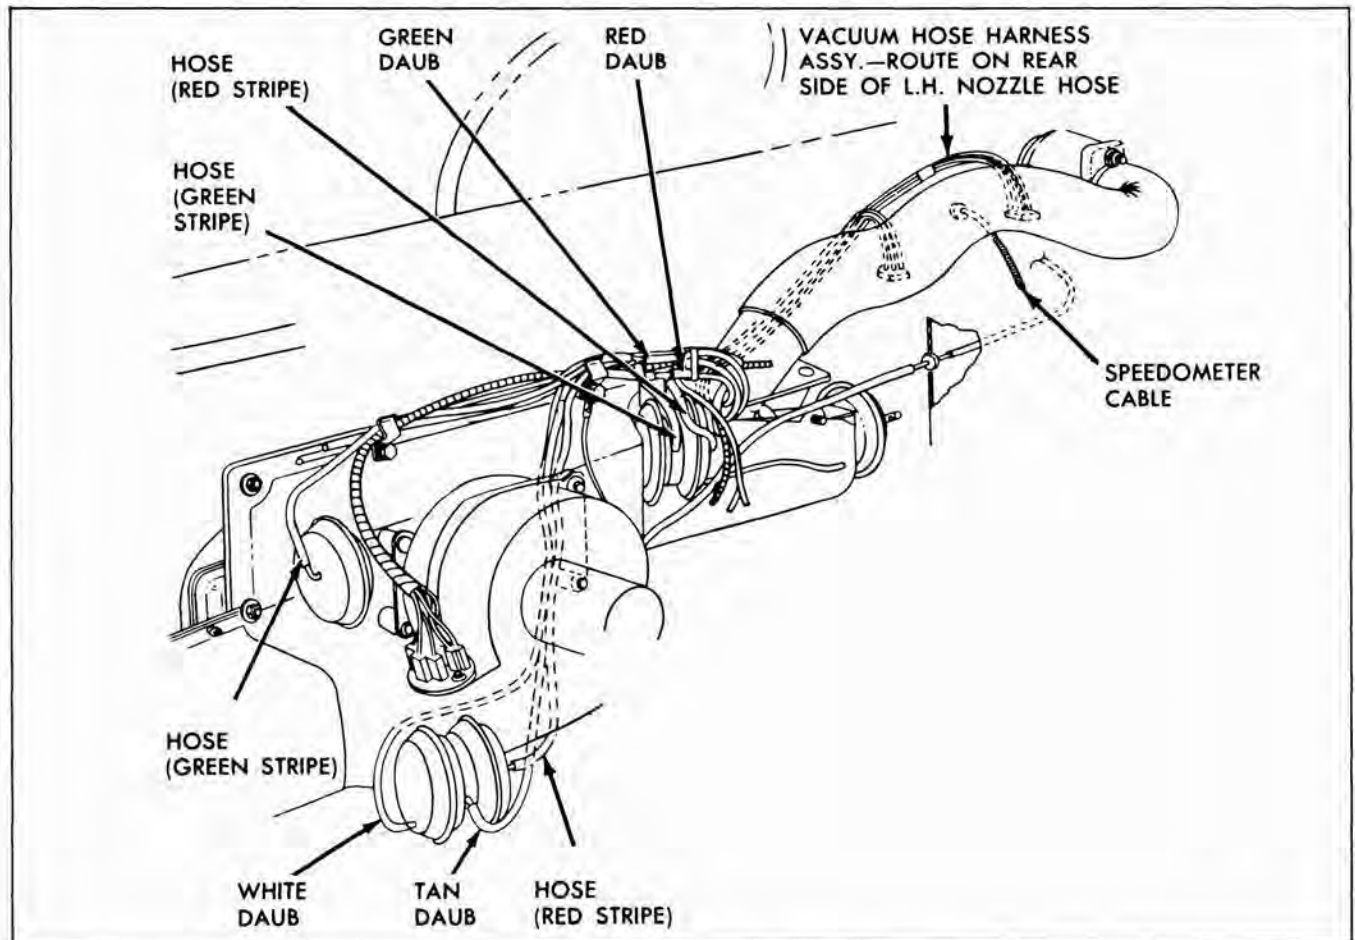

Fig. 5-47 Vacuum Hose Connections at Control Diaphragms
**NOTE:** Connect the vacuum hoses to the control diaphragms as shown in Fig. 5-47.
5. Replace by reversing the above procedure, making sure all vacuum hoses are properly connected (Fig. 5-47) and that wire connectors to resistor are installed.
7. Attach vacuum hoses to diaphragms (Fig. 5-47) and wires to resistor.